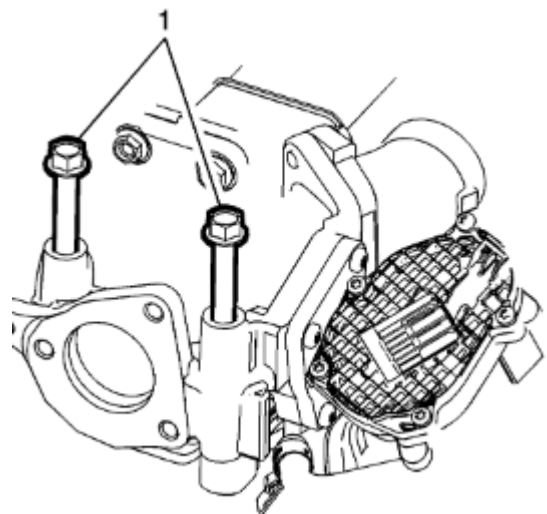

Fig. 121: EGR mounting bolt installation
- b. Install the EGR mounting bolts as shown in figure 121 and torque them to 39 ft-lb.